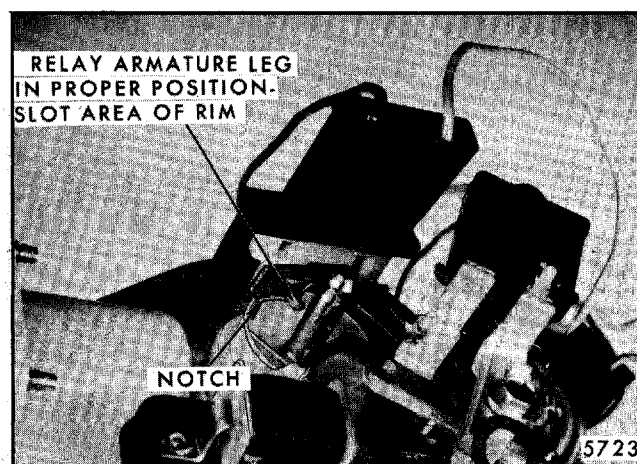

Fig. 2-121-Pump in Idling Position
1. A leg on the relay armature rides up a ramp located on the outer surface of the ratchet gear rim. When the leg reaches the top of the ramp, it moves over the top edge of the ratchet gear rim. This action allows the ratchet gear pawl to re-enter the armature opening preventing further rotation of the ratchet gear until the next time the relay coil is energized from the washer button. (Refer to Figure 2-121 for position of armature leg while pump is idling.)